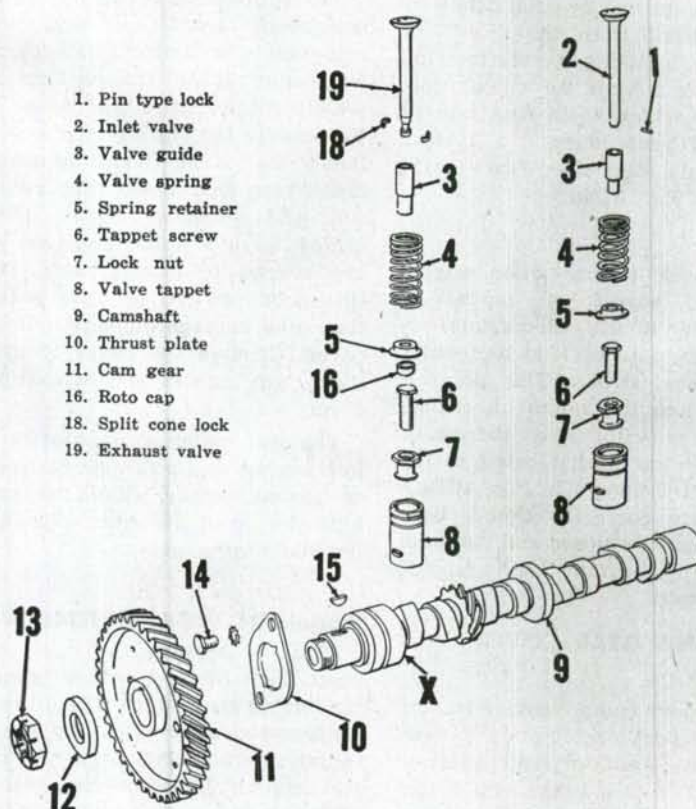

Fig. AC27—Model G camshaft, valves and tappets. Note governor vent (X) in camshaft and items (16) and (18) which are used only on the exhaust valves.
Camshaft end play is controlled by the thickness of the thrust plate (10—Fig. AC27) located behind the gear. Renew the thrust plate if the end play exceeds .007. Check the vent opening (X) in the camshaft directly behind the front camshaft journal. If the hole is plugged, it will be impossible to obtain satisfactory governor operation.